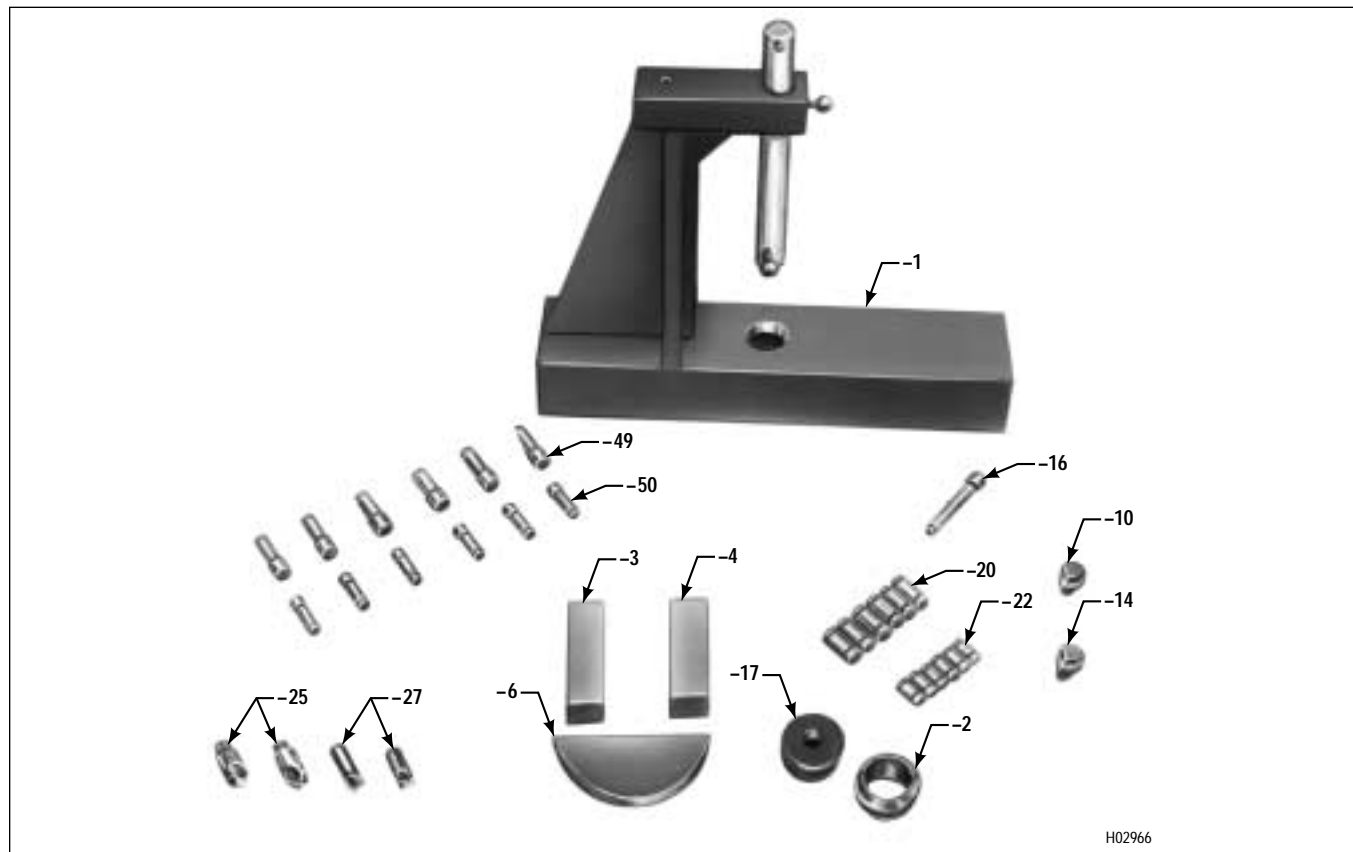

Figure 6-59. Planetary Rebuild Tool Identification
- The disassembly and assembly procedures for all the planetary carrier assemblies in the AT Series transmissions differ only in the proper tool selection for the specific carrier assembly. Refer to the tool chart and Figure 6-59 for specific use and identity of the carrier (front, center, rear) and tools involved. If the tool is common to all the planetary carrier assemblies, its number will be listed in the text. If the tool is not common, the text will refer to the chart. For planetary carrier detailed information, refer to the exploded views at the back of this manual.
(1) Using a drill that is slightly smaller than the pinion pin diameter, drill into the swaged end on the pins (only one end required). Do not drill into the carrier. The rear ends of all pinion pins except those in the center carrier assembly will be drilled. Drill the front ends of the center assembly pins.
(2) Place press fixture J 25587-1 in a hydraulic press. Select the proper spacer and adapter, if required, from the tool chart and Figure 6-59. Position these parts (if used) to support the carrier assembly (drilled ends of pinion pins upward) solidly on the press fixture.
(3) Install pin remover J 25587-16 into the ram of the press fixture. Press the pinion pins from the carrier assembly.
(4) Remove the pinion groups, consisting of pinions, bearings, and thrust washers.
(1) Assemble all the pinion groups for the carrier assembly. Each group is assembled by inserting the proper loading pin into the bore of the pinion, installing the needle roller bearings around the loading pin, installing a steel thrust washer at each end of the pinion, and installing a bronze thrust washer onto each steel thrust washer.
(2) Position the carrier assembly, rear upward (center carrier, front upward). Install all the pinion groups into the planetary carrier, aligning the loading pins with the pin bores in the carrier.
(3) Install the proper pinion guide pins (Tool Chart and Figure 6-59), larger diameters first, into the pinion pin bores. Push the guide pins through the carrier until the loading pins drop out.
(4) Position the carrier assembly on the press fixture, using pin remover and installer adapter J 25587-2 (if required).
(5) Select the proper pin installer, and install it into the press fixture ram.